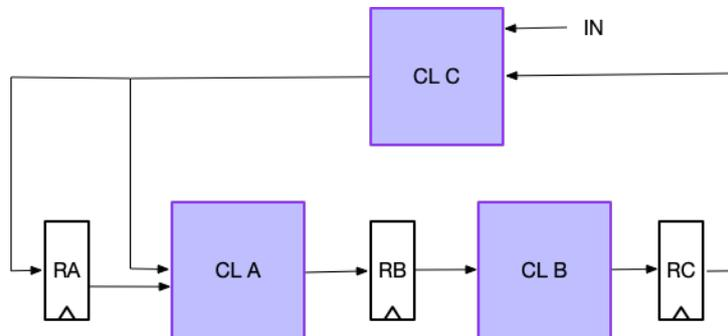

Figure 9.7: Three blocks of combinational logic, CL A, B and C, connected by three registers, RA, RB and RC.
Consider the circuit in Figure 9.7 with three combinational logic blocks A, B and C connected with registers RA, RB and RC. Data for the combinational logic blocks A, B, and C and for registers of type R1 are found in Tables 9.7 and 9.8, respectively. Typical data are in the leftmost column, TT, while data for the slow (SS) and fast (FF) corners are given in the columns to the right.
- In the next design step you tentatively decide to use a clock frequency of 3 GHz. Now you also need to analyze the circuit for the fast (FF) and slow (SS) corners. With this clock frequency, what is the maximum clock skew you can be sure will not cause either setup or hold violations in the circuit for any of the timing corners? (6 p)
Consider the circuit in Figure 9.7 with three combinational logic blocks A, B and C connected with registers RA, RB and RC. Timing data for the combinational logic blocks A, B and C and for registers RA, RB and RC are found in Tables 9.7 and 9.8, respectively.